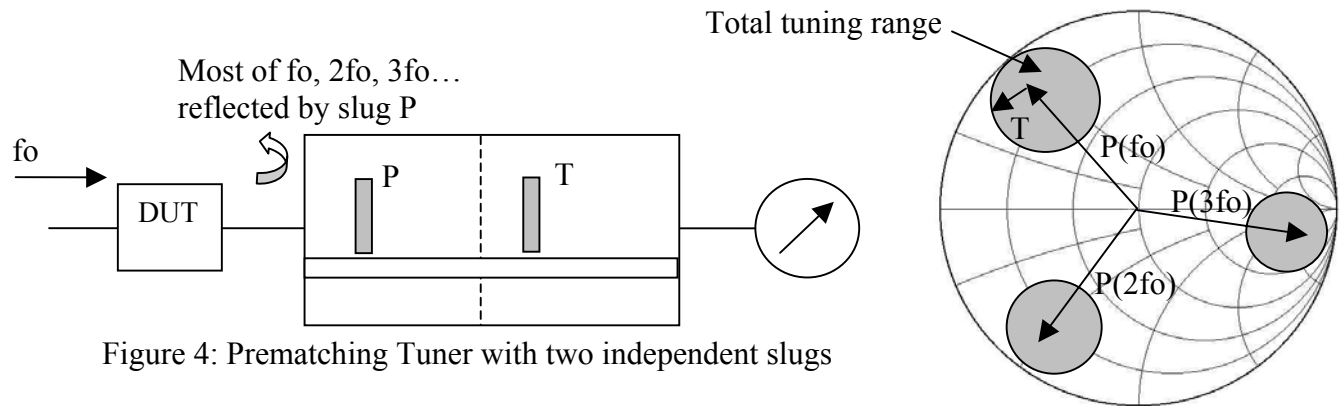

Figure 4: Prematching Tuner with two independent slugs
A prematching tuner consists of a prematching slug (P) close to the DUT, which does not move during load pull, followed by a tuning slug (T) (figure 4), which serves for the actual load pull measurement (see greyed areas in figure 4).